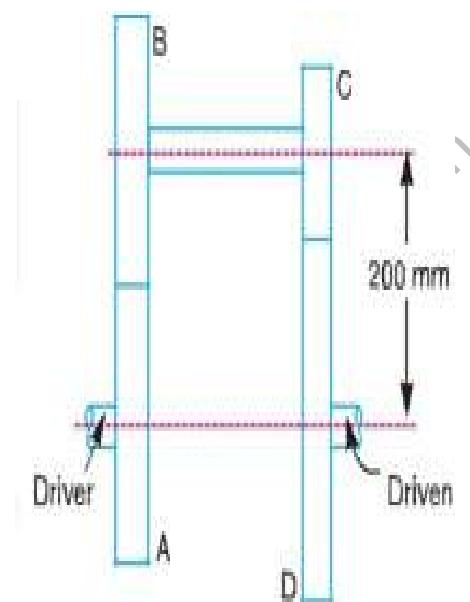

Figure 1
b) The speed ratio of the reverted gear train, as shown in Figure 1, is to be 12. The module pitch of gears A and B is 3.125 mm and of gears C and D is 2.5 mm. Calculate the suitable numbers of teeth for the gears. No gear is to have less than 24 teeth. (8M)